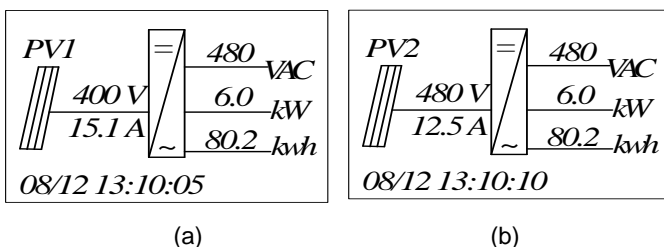

Figure 6-2 Default indication interface for normal operation
(2) Normal operation mode: Default indication interface for normal operation is shown in Figure 6-2 (a) and 6-2 (b). The switching time between (a) and (b) is 5 seconds.